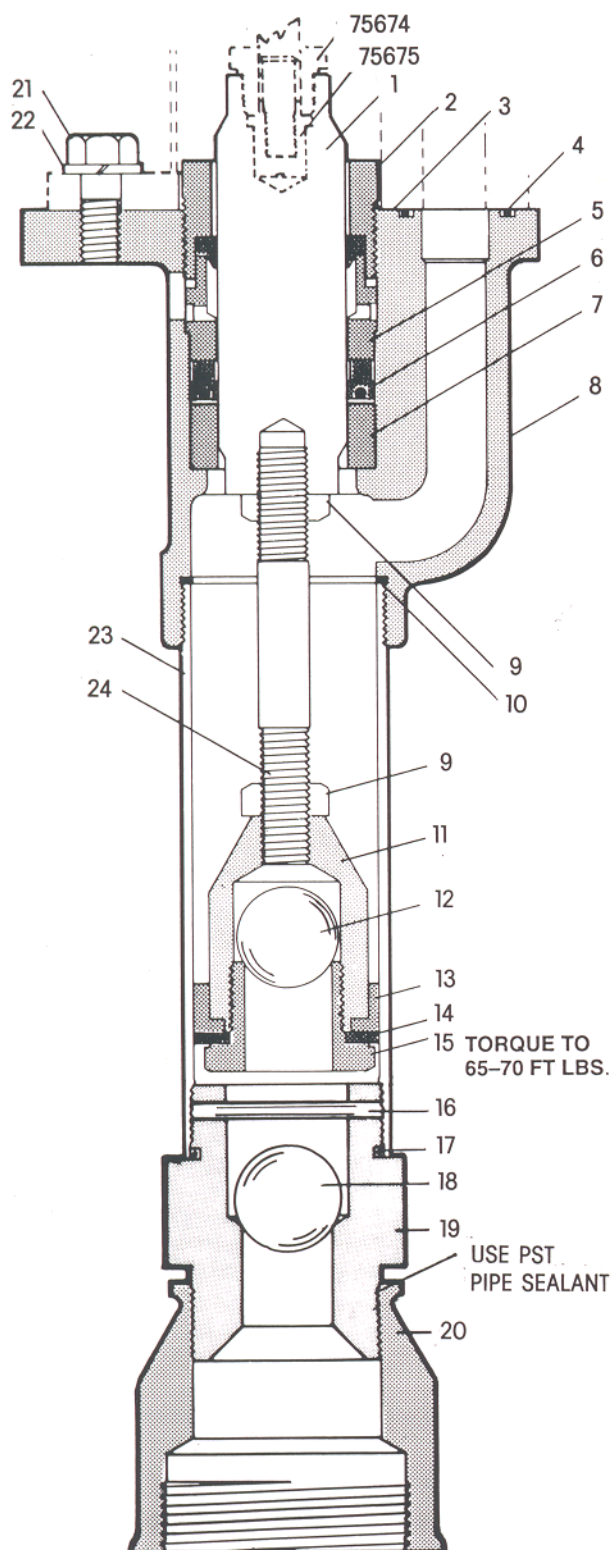

FIGURE 2
- 637067-B for repair of Lower Pump (see figure 2).
Replace Packings. (See Fig. 2 Seal Detail)